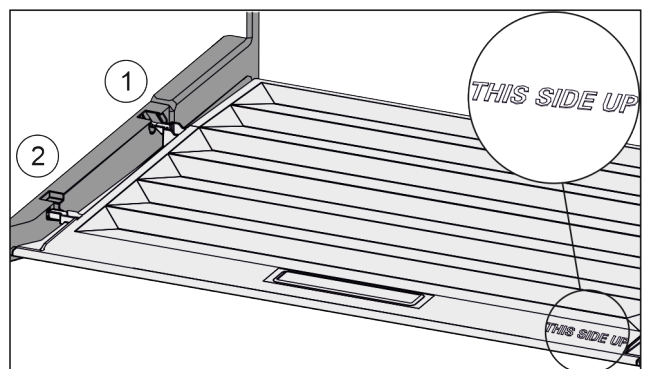

Fig. 35
- ▶ Insert the lip of the cover over the opening of the rear bracket *Fig. 35 (1)* and click into place *Fig. 35 (2)*.